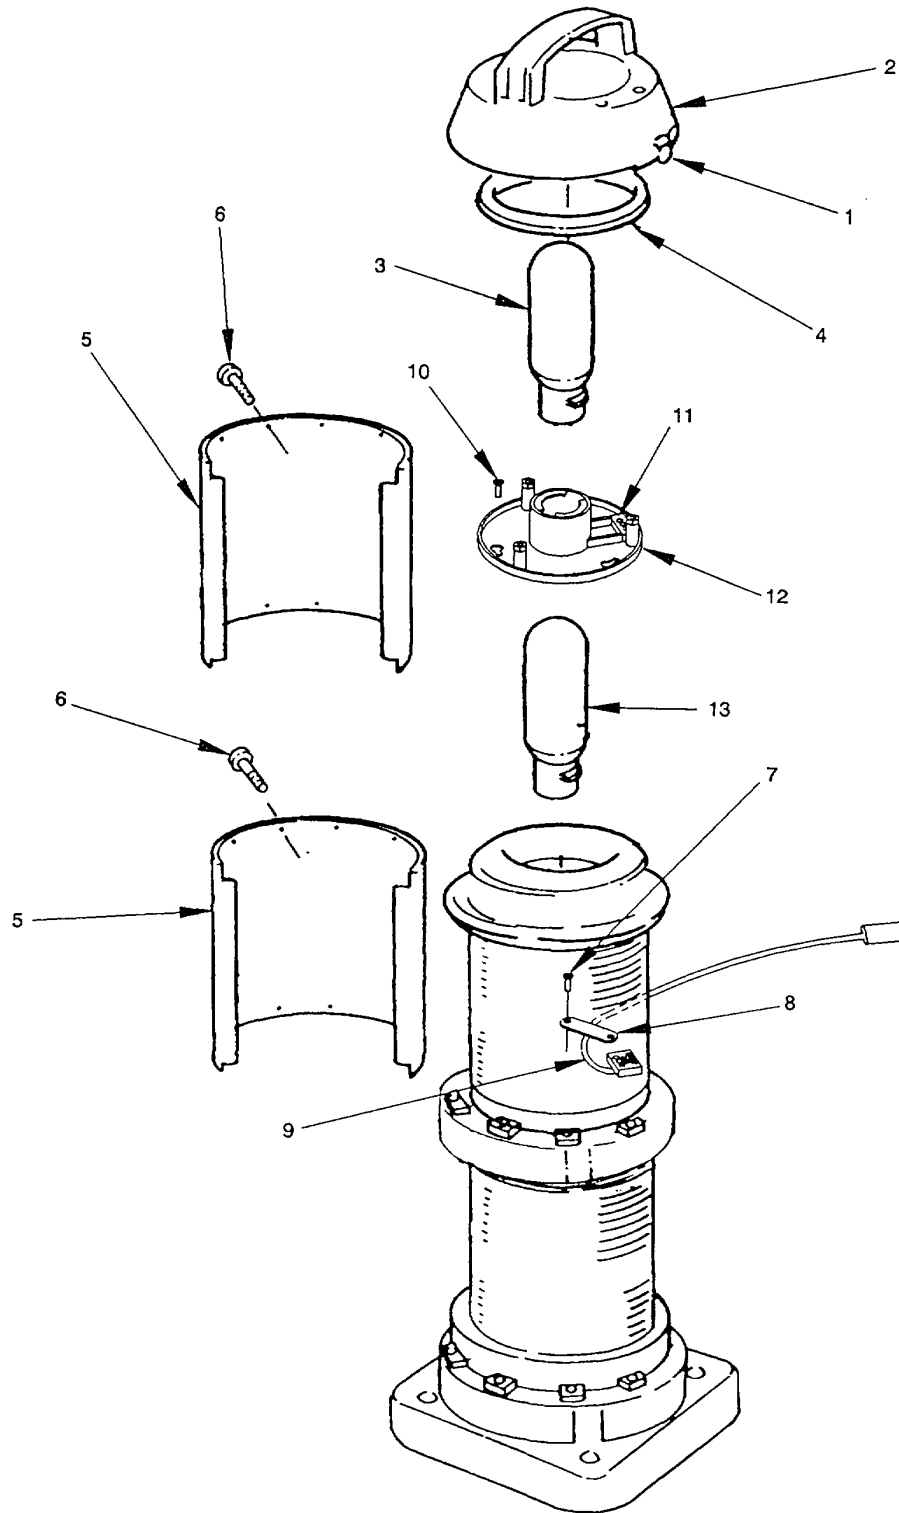

Figure 2-171. Stern Light, Repair.
- (4) Inspect portable cable assembly (5) for corrosion, connection separation, insulation cracking, bent pins and dirty plugs. Clean off corrosion, straighten pins, clean out plugs.
c. Repair. (figure 2-171)
- (1) To replace lamp light bulbs (3 and 13), loosen safety knob screw (1) and turn cover (2) by its handle to the left and lift up the cover. The topmost bulb (3) may then be changed from the top.
- (2) Replace cover gasket (4) if damaged or worn.
- (3) Replace screens (5), if damaged, by removing screws (6).
- (4) To reach bottom bulb (13), the top mounting plate (12) must be removed. Remove top bulb (3) to prevent damage to it while removing top mounting plate. Loosen screws (7) securing clamp (8) to allow cable (9) to move freely. Loosen three phillips head screws (10), rotate plate so screw heads slide through sliding screw holes in mounting plate (12) and separate two halves of connector plug (11) while removing plate (12). Lift out top mounting plate (12). Change bottom bulb (13).